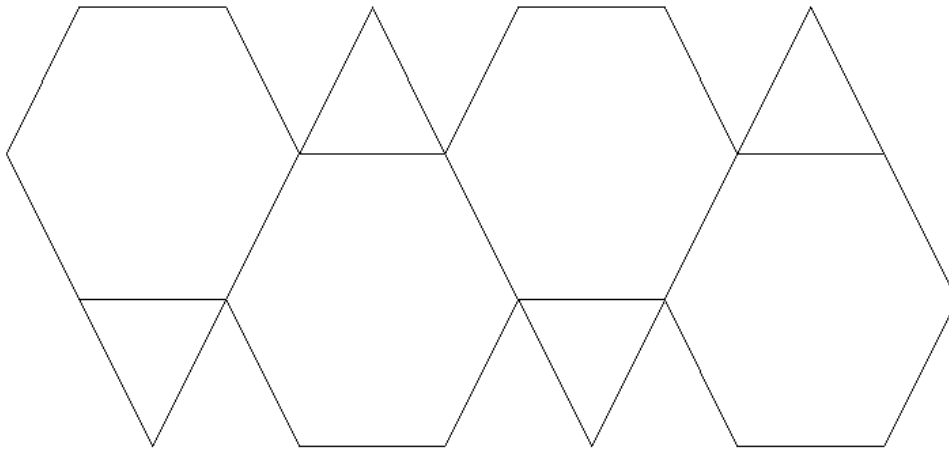

Figure 9.3
3. Make three more in a row, connected by a common edge, as in **Figure 9.3**.